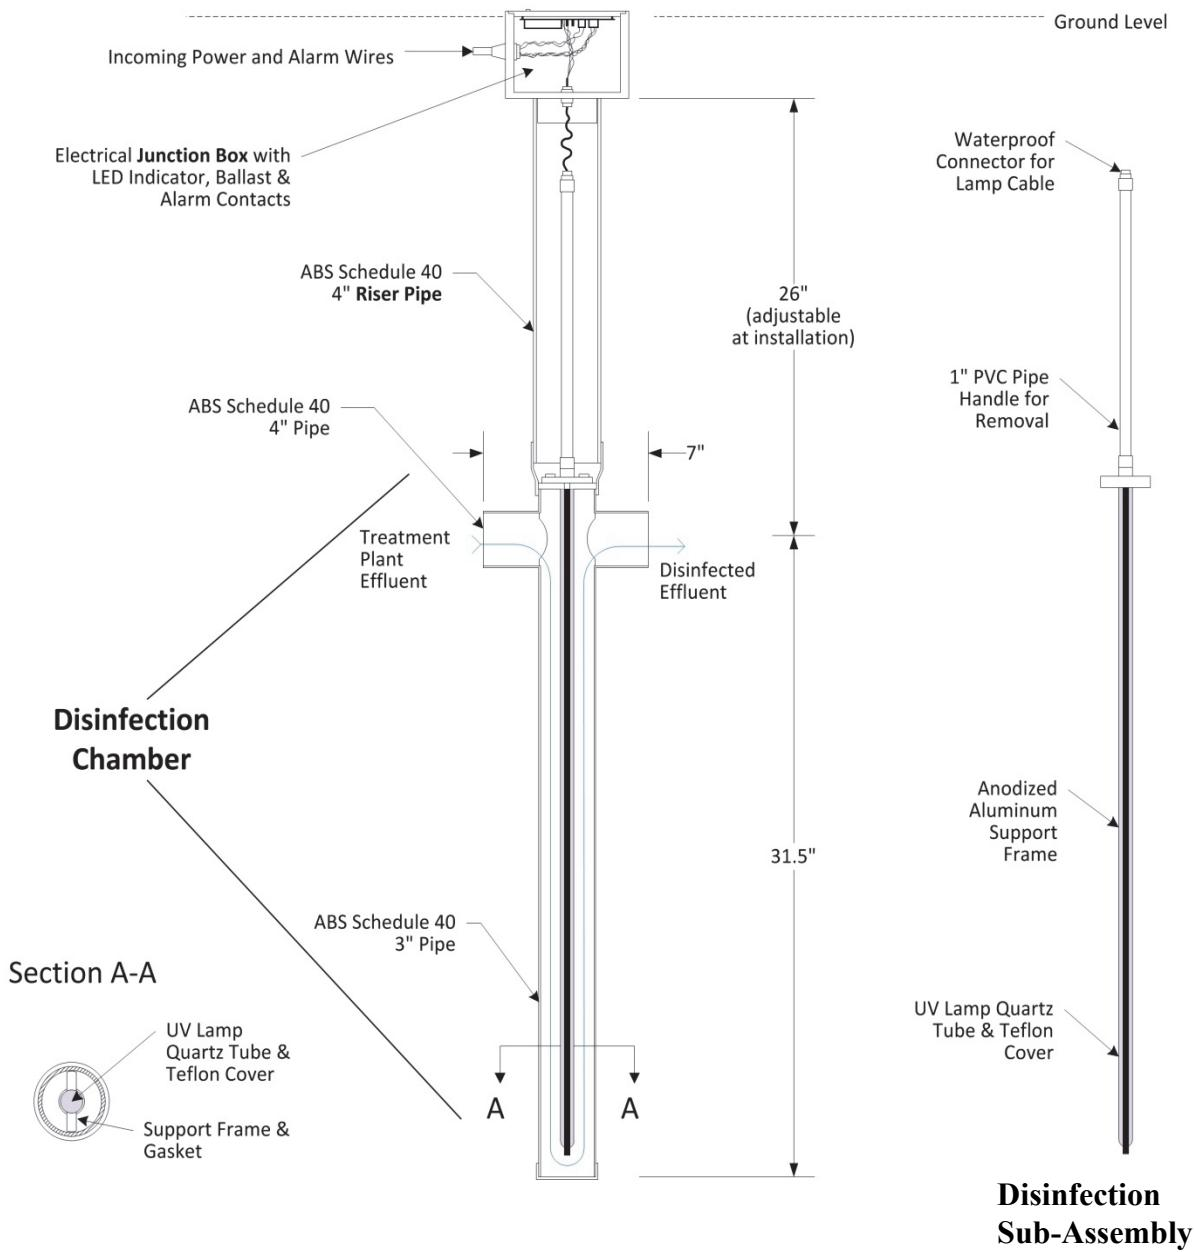

Figure 1
Note: **Figure 1** (page 3) indicates that the electrical junction box should be placed at ground level. The junction box could be placed below grade in an irrigation valve box. The Junction box is rated NEMA 6P. To be safe, however, the junction box should be protected from flooding.
- a. Use the 4-inch ABS inlet pipe connection to the pretreatment unit as a reference point. See **Figure 1** (page 3).